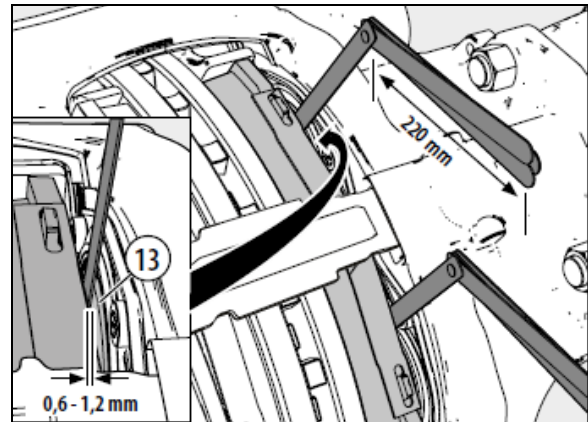

FIGURE 39: CHECK GAP BETWEEN TAPPETS AND INBOARD PAD
9. Set the starting gap by turning the adjuster (23) with the shear adapter (61) backwards and then forwards (note that when turning backwards a noticeable clicking can be heard and felt), until a value of 0.051 in (1.3 mm) air gap has been achieved (measure between the brake pad and tappets (13)).
11. Check the gap between each of the tappets (13) and inboard pad backplate (12). This must be measured over the whole tappet surface of both tappets using two feeler gages simultaneously (feeler gages must be at least 8 1/2 in / 220 mm long) (see Figure 39).